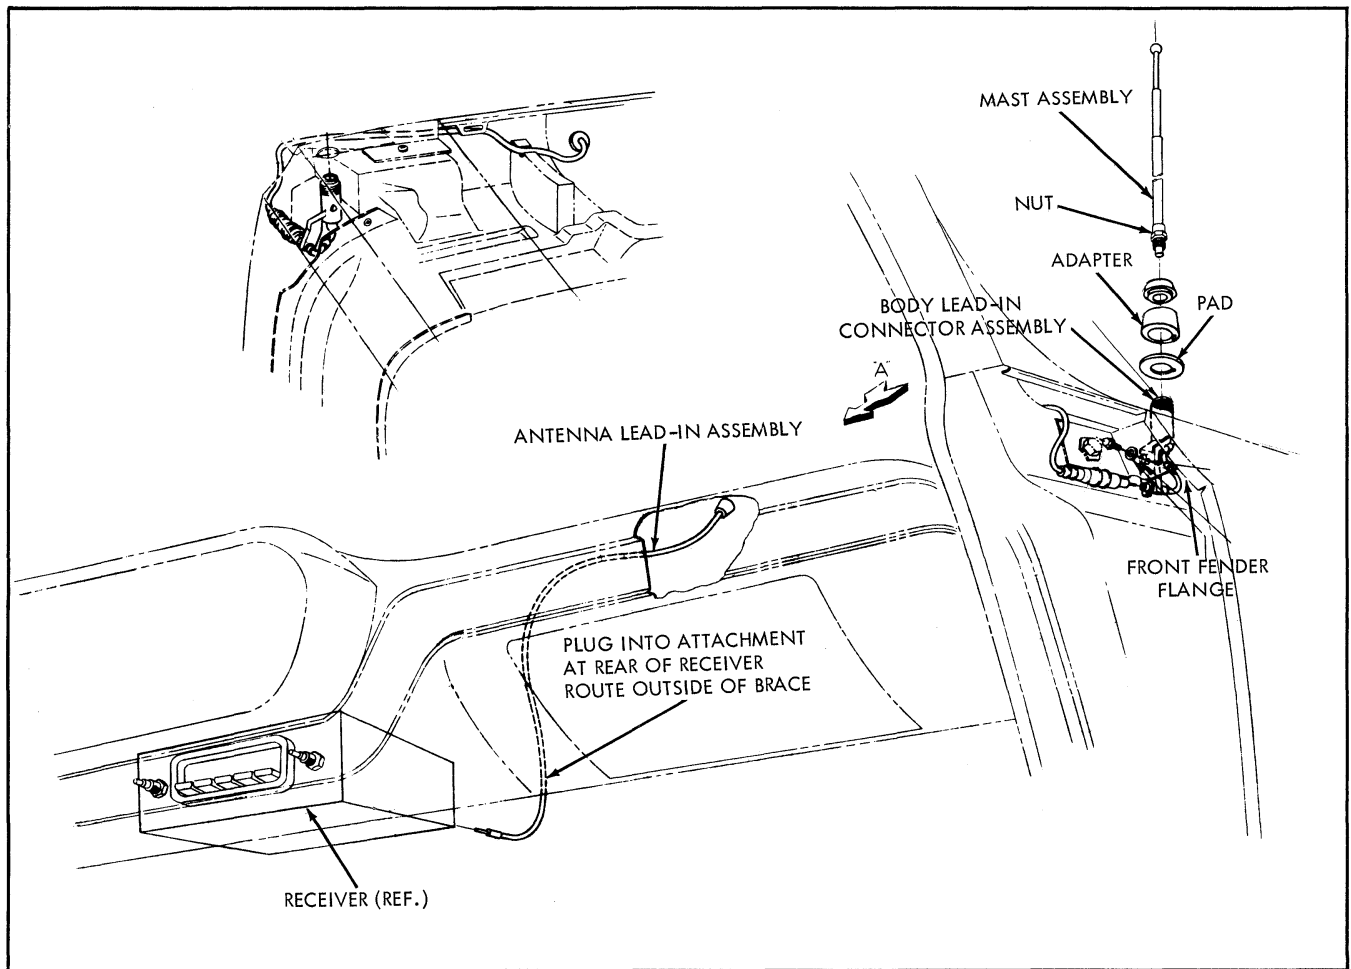

Fig. 12-11 Reference Illustration - Tempest Antenna
The manual antenna is mounted on the right front fender, in approximately a vertical position (Fig. 12-11).
2. Disconnect lead-in plug from radio receiver (Fig. 12-11).